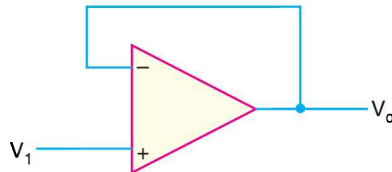

Fig. 25.107
14. What output voltage results in the circuit of Fig. 25.107 for $V_1 = +0.5 \text{ V}$? [$V_o = 0.5 \text{ V}$]